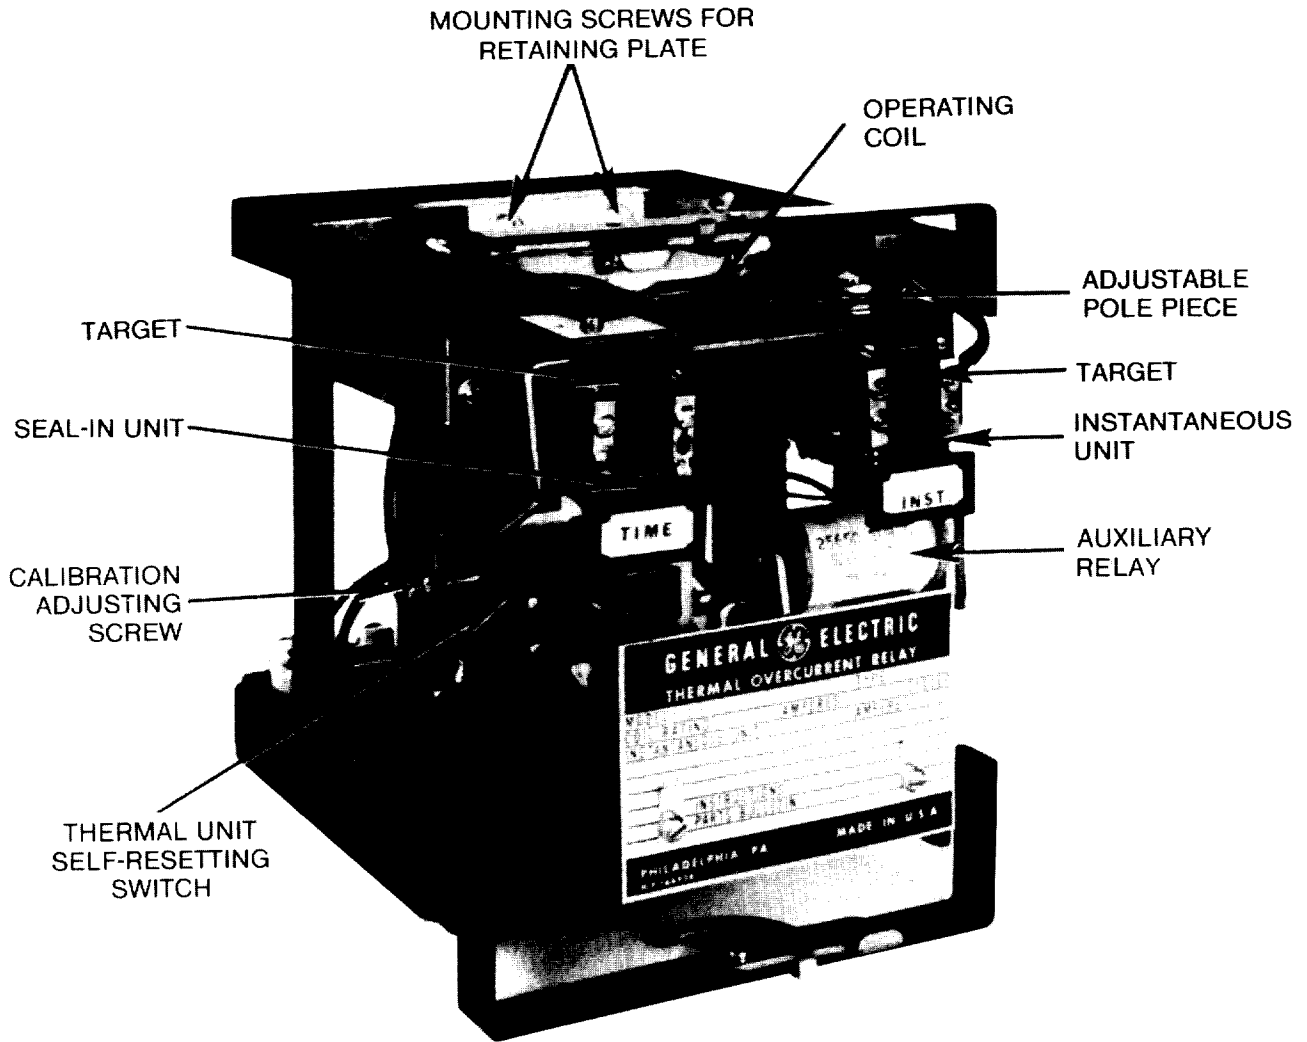

FIG. 1 (8043499) TMC24B RELAY, FRONT VIEW - COVER REMOVED
Upon leaving the factory, the relay is set for the 100 percent calibration. If it is desired to adjust the relay to trip at a slightly higher or lower value of current, loosen the adjustment locking screw (see Fig. 1). Then the adjusting screw can be turned to provide the desired adjustment. Be sure to tighten the adjustment locking screw.
The instantaneous unit has an adjustable core located at the top of the unit as shown in Fig. 1. To set the instantaneous unit to a desired pickup loosen the locknut and adjust the core. Turning the core clockwise decreases the pickup, turning the core counterclockwise increases the pickup. Bring up the current slowly until the unit picks up. It may be necessary to repeat this operation, until the desired pickup value is obtained. Once the desired pickup value is reached, tighten the locknut.
1. Refer to Fig. 1 and loosen the three mounting screws and remove the retaining plate.